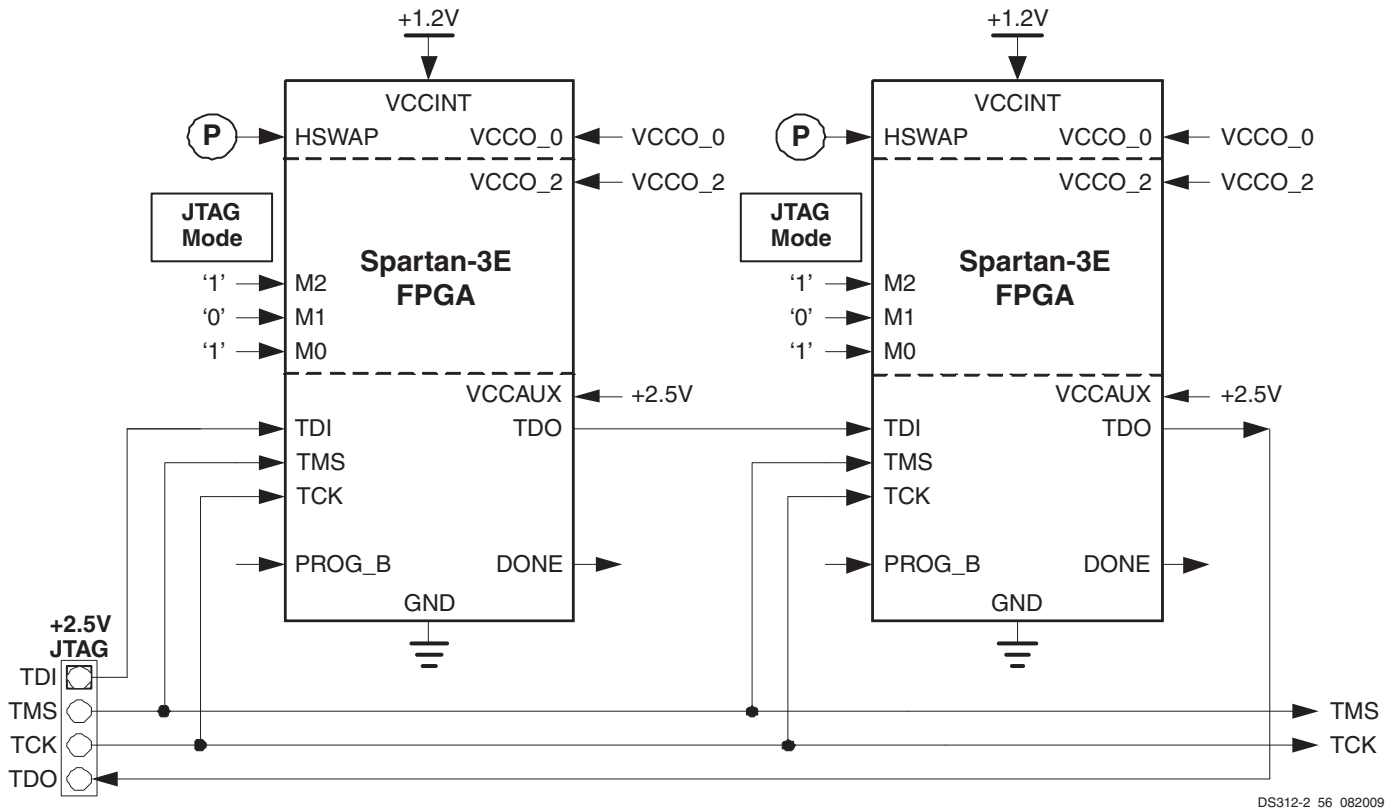

Figure 65: JTAG Configuration Mode
**Figure 65** illustrates a JTAG-only configuration interface. The JTAG interface is easily cascaded to any number of FPGAs by connecting the TDO output of one device to the TDI input of the next device in the chain. The TDO output of the last device in the chain loops back to the port connector.